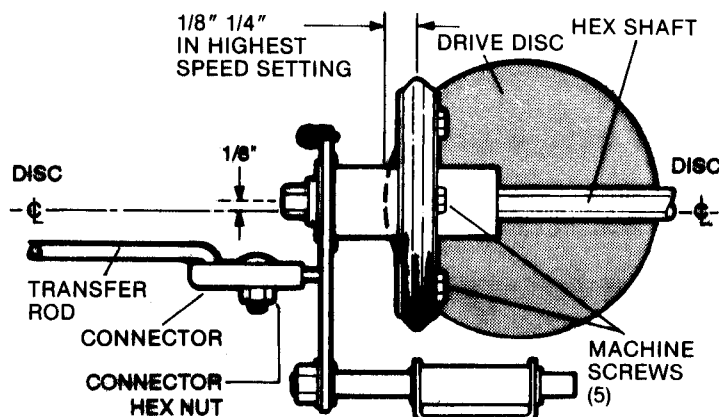

FIGURE 2.12
- (c) The *CENTER* of the rubber ring should be 1/8" to 1/4" from the left *EDGE* of drive disc as shown. See Figure 2.12.
2. Check the "TRACKING POINT". The rubber ring should contact the drive disc's surface at a point 1/8" *in front of* an imaginary reference centerline crossing through the center of the drive disc. You may wish to draw the centerline with a pencil. See Figure 2.12.